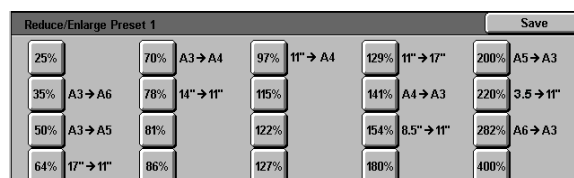

Figure 64: Sample Preset screen
- 3 Touch the button with the desired reduction/enlargement percentage, as illustrated in Figure 64.